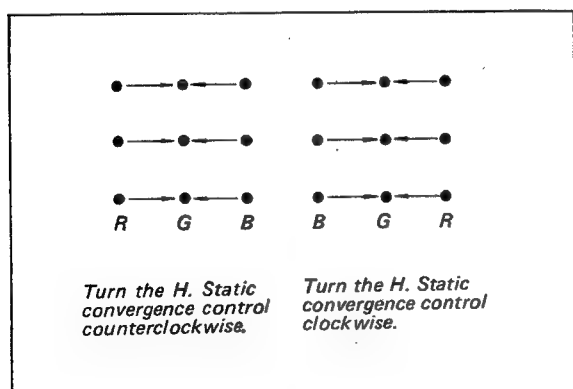

Fig. 3-4.
1. Adjust the horizontal static convergence control (H STAT) to converge the red dots and the blue dots with the green dots at the centre of the screen. See Fig. 3-4.